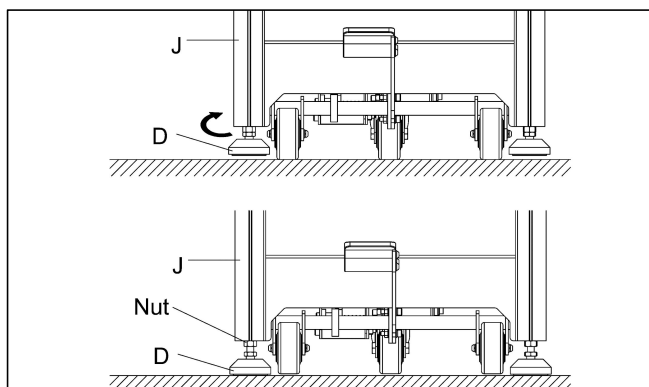

Fig.12
i. To evenly set the height of the support feet, rotate each of the four feet (D) **CLOCKWISE** by the same number of turns (rotation) until the rollers are slightly lifted up above the ground surface. It is recommended that the rollers be at least 0-2 mm, higher than the ground surface.
If the ground surface is uneven, then you may need to fine-tune the feet (D) so that the table is leveled accordingly. You may need a leveler to ensure that the table is properly leveled. Once the height is properly set, tighten the nut on the feet (D) up against the legs as shown in **Fig.12** to ensure the height is fixed at a set height.